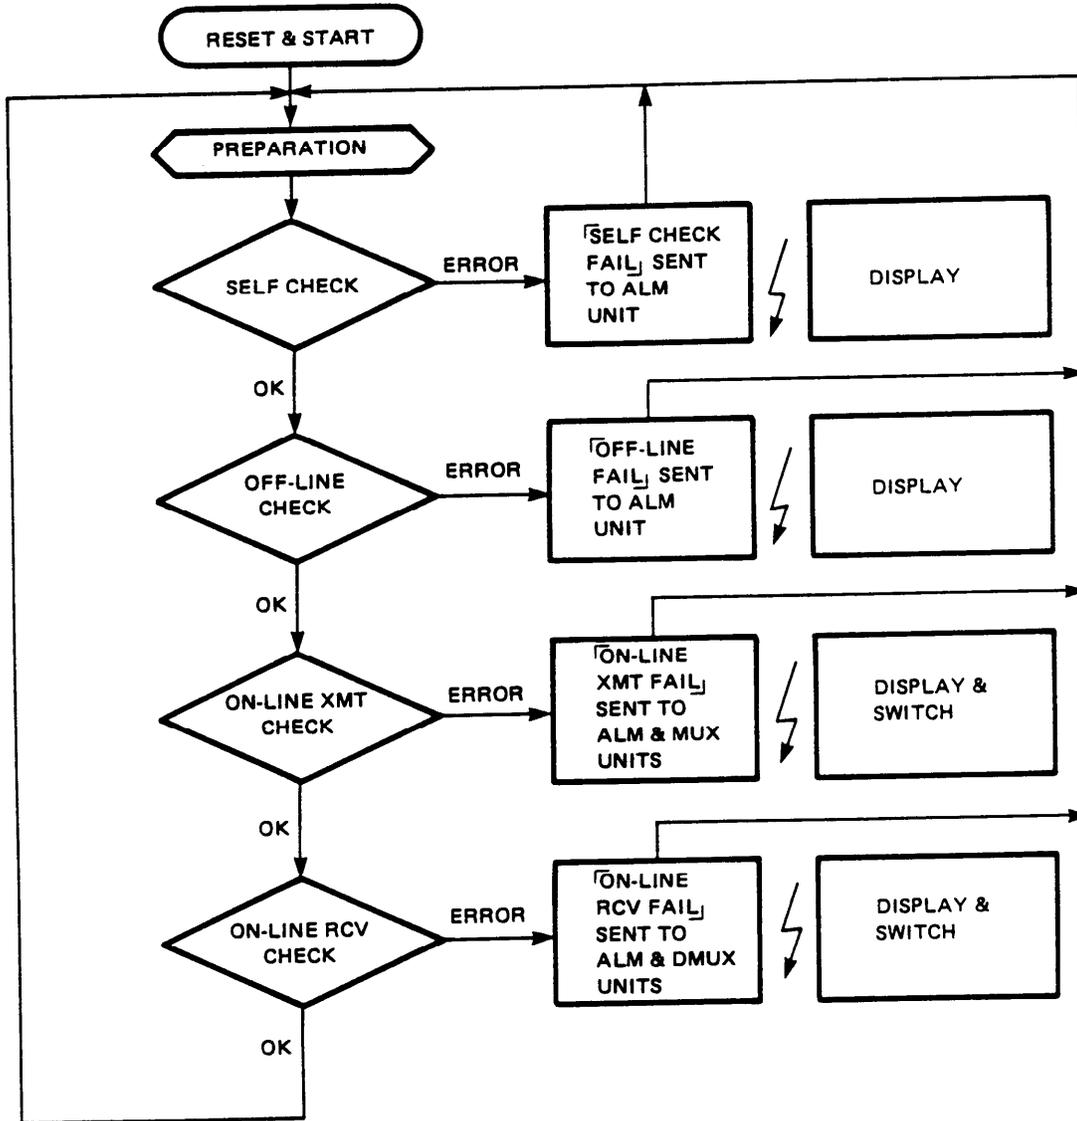
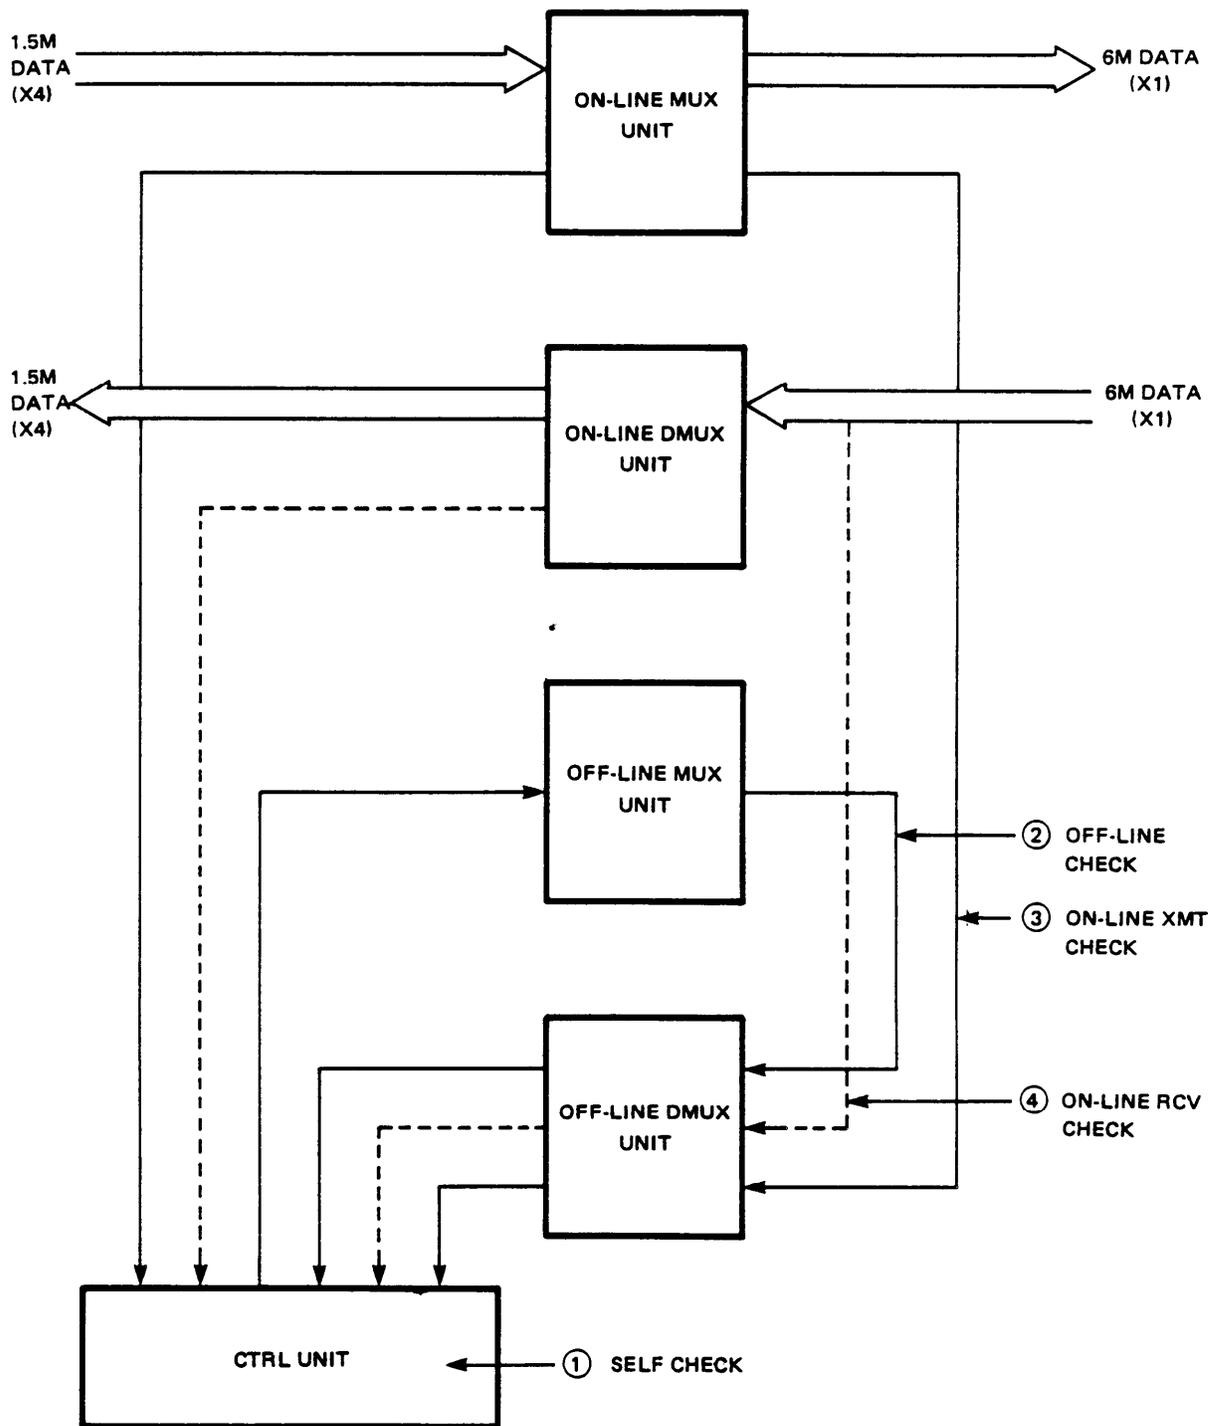

Figure 3-2 Monitoring Flowchart
Figure 3-3 Monitoring Route
3.02 Monitoring function is a repetition of the checking procedures of Shelf check, Off-line check, On-line XMT check and On-line RCV check. Monitoring flow is shown in Figure 3-2 and routing is shown in Figure 3-3.